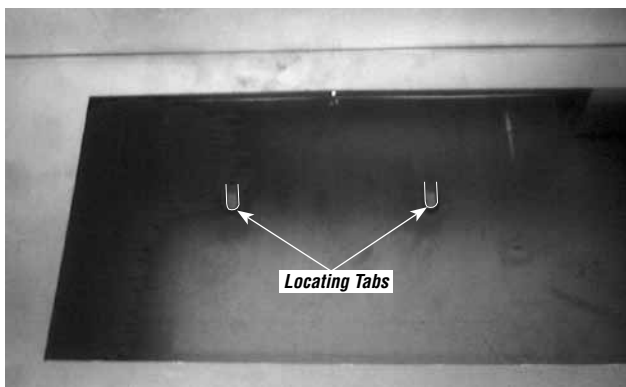
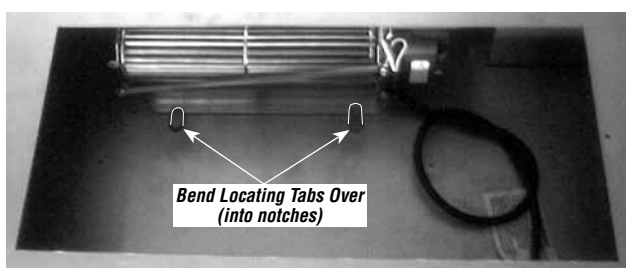

Figure 20
Figure 21
**Step 4.** Locate the tabs shown in **Figure 20**. Position the blower assembly so that the tabs (located on the cabinet base) are seated in the notches of the blower bracket. Bend the tabs over to secure the blower assembly (see **Figure 21**).